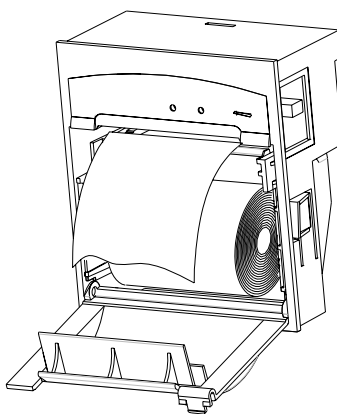

Figure 2-6 Load recording paper
3. Insert recording paper into the paper entry, as Figure 2-6 shows.